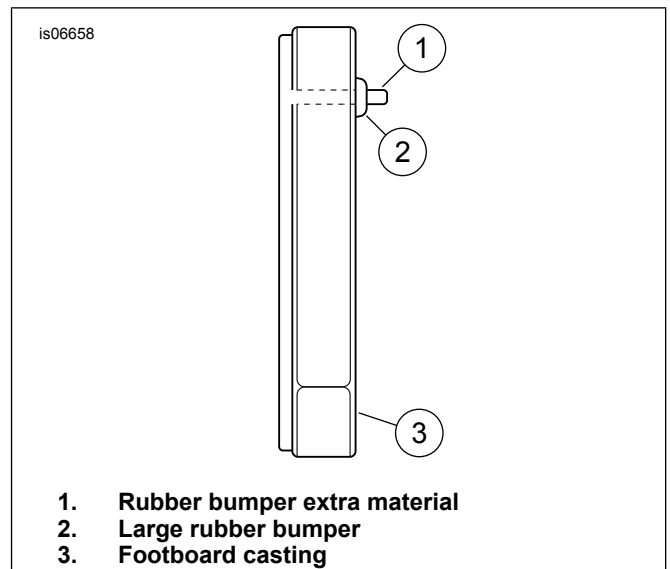

Figure 4. Remove Rubber Bumper
4. See Figure 4. If present, remove the extra material (1) from the rubber bumpers (2) that protrude from the footboard castings (3) using a knife or cutting pliers.